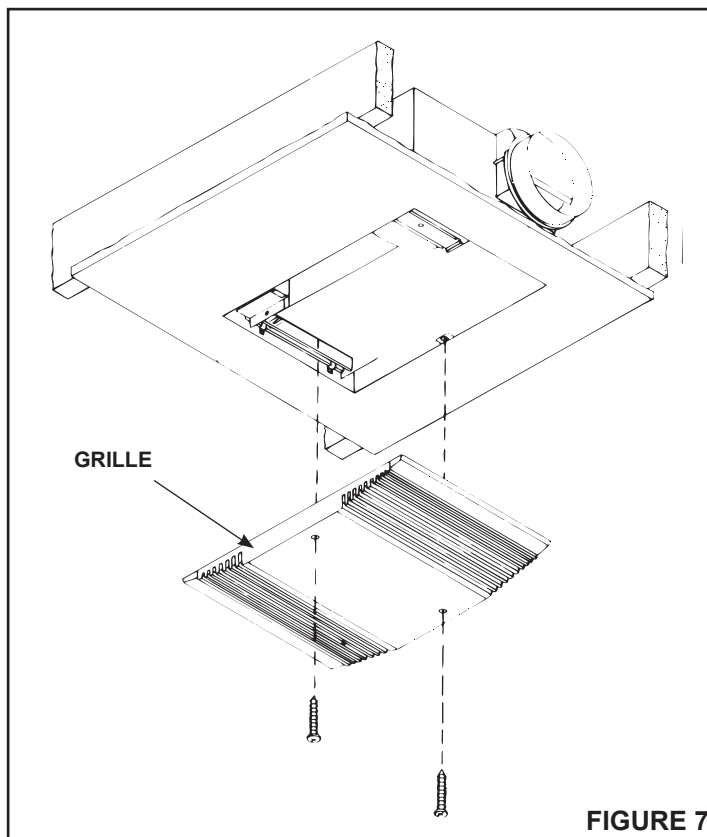

FIGURE 7
1. **Refer to Figure 7.** Using two screws (provided), secure grille to housing.